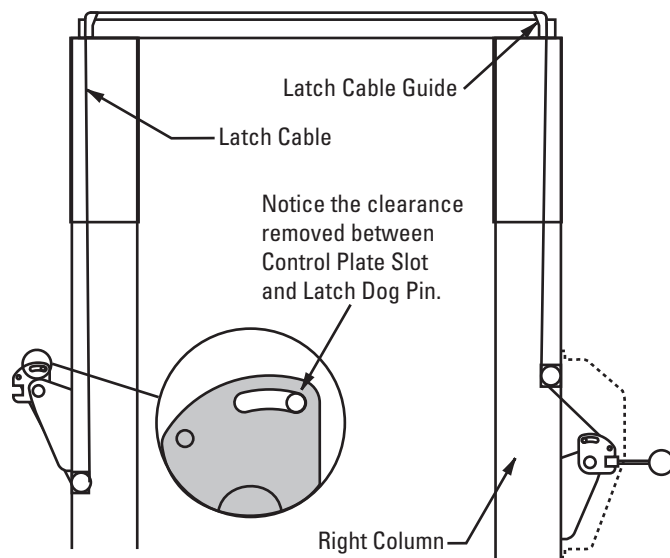
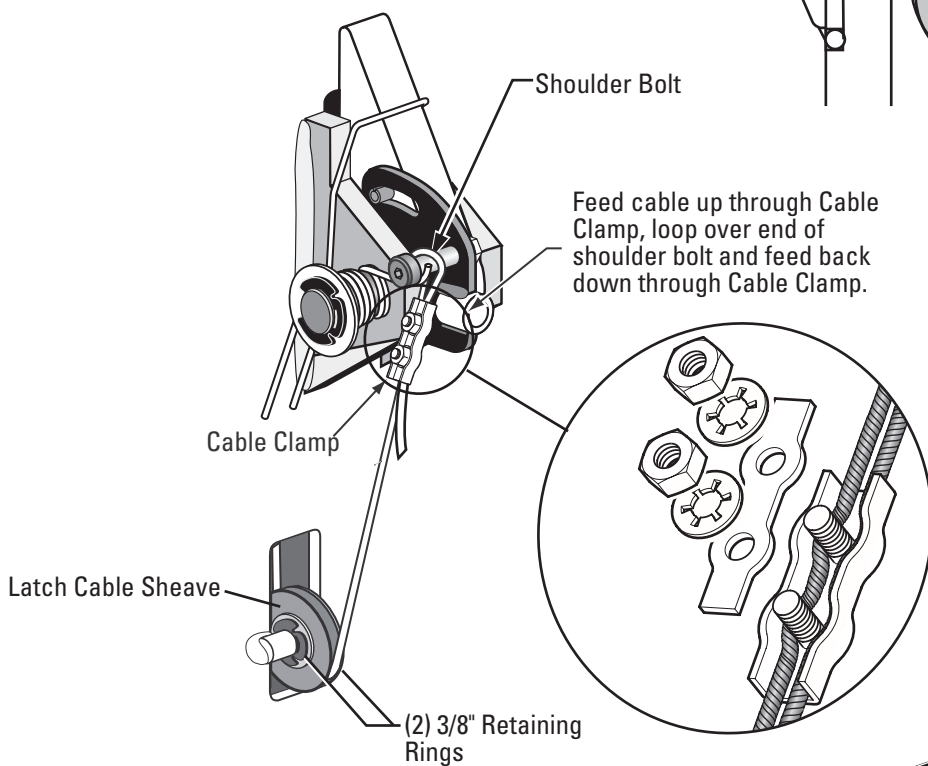

Fig. 18
Fig. 19
- E) Route cable up inside column and through the latch cable guide, Fig. 16a & Fig. 18.
- F) Continue routing cable to the left column latch cable guide, Fig. 16a & Fig. 18, routing the cable through the left column latch cable guide, Fig. 16a.
- G) Bring the cable down inside the left column and feed the end of the cable through the lower latch cable sheave slot so that the cable is now back outside the column, Fig. 19.
- H) Install latch cable sheave and retaining rings in lower slot of non-power unit column as shown, Fig. 19.
- I) Route cable under the bottom side of the latch cable sheave, Fig. 19.
- K) Insert cable in cable clamp along one side, loop around shoulder screw and back down, inserting cable along other side of cable clamp, Fig. 19. Place top back on clamp, barely tightening.
- L) Next, pull the control plate down, Fig. 18 & Fig. 19, to eliminate any clearance between the control plate slot and the latch dog pin, Fig. 18.